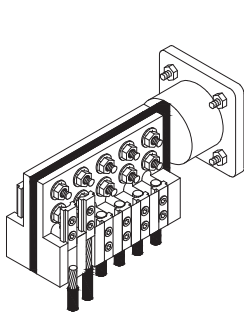
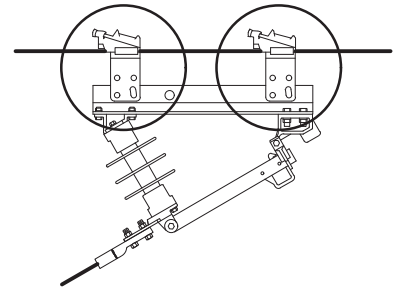

FIG. 1
FIG. 3
1. TRANSFORMER SPADE TO LAYIN-CONNECTOR OR CABLE LUG (FIG. 1)
3. JUMPER SWITCH TO BOLTED WEDGE PADTAP CONNECTOR (FIG. 3).
ALL CONTACT SURFACES MUST BE FREE OF CONTAMINANTS. USE AN ABRASIVE CLOTH WHEN CLEANING POLISHED SURFACES. NEVER BRUSH PLATED SURFACES SUCH AS TRANSFORMER SECONDARY SPADES (FIGURE 1). **ALWAYS** BRUSH THE PADS ON BOLTED WEDGE PADTAPS CONNECTORS (FIGURE 3).